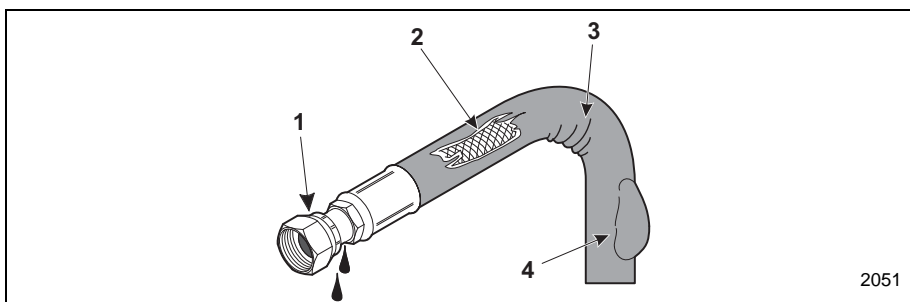

Figure 3-8 Hydraulic Hose Damage
- Some examples of common hydraulic hose damage are shown in Figure 3-8.